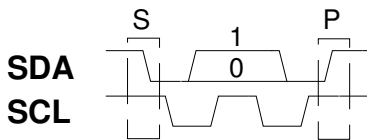

Figure 2. I²C protocol definitions
Two wire I²C bus protocol has special bus signal conditions. Figure 2 shows start (S), stop (P) and binary data conditions. At start condition the SCL is high and SDA has falling edge. At stop condition the
Each I²C bus operation like write starts with start command (see figure 2). After start the MAS6501 device address with write bit (AW, see table 2) is sent and ended to acknowledge (A). After this control register address (AC, see table 3) is sent
and ended to acknowledge (A). Next control register data (DC, see table 1) is written and ended to acknowledge (A). Finally the I²C bus operation is ended with stop command (see figure 2).